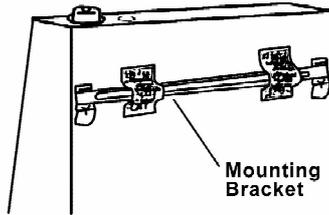

**Figure 5 - Moving Thermostat Sensing Bulb**
2. Take out the bulb clip from the hardware package and insert it into the square hole and then insert the sensing bulb into the bulb clip (see Figure 5).